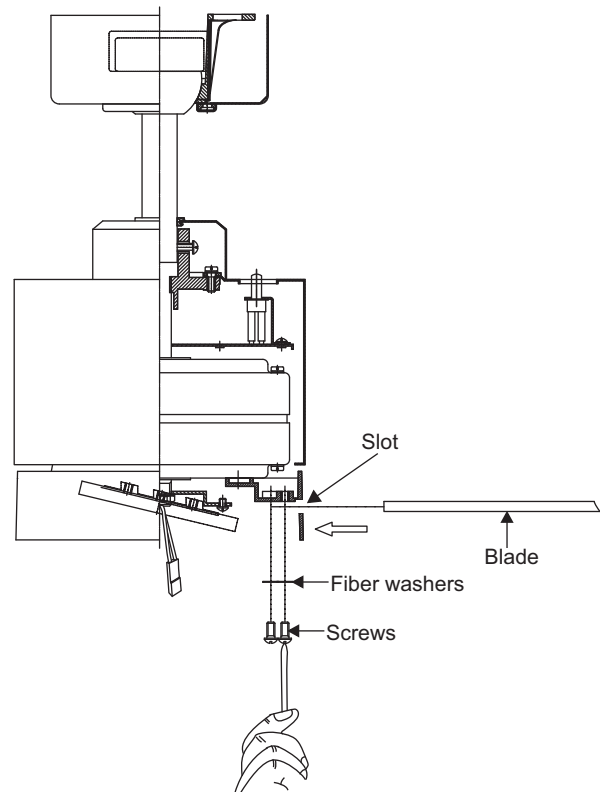

Figure 14
Step 1. Insert the blade through the slot in the housing. Align the holes in the blade and the fan motor assembly and secure with a the screw and fiber washer. (Fig. 14)